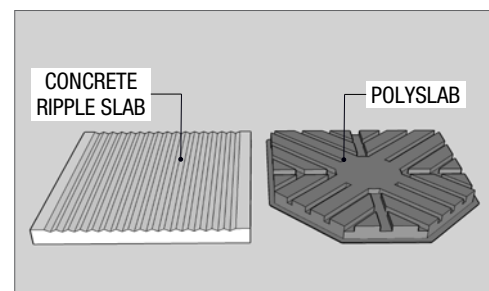

Fig 1
1. In an external location, position the solar storage system hard up against the building facade and on a level concrete / suitable plinth, such as a concrete ripple slab or a Polyslab (Fig 1)